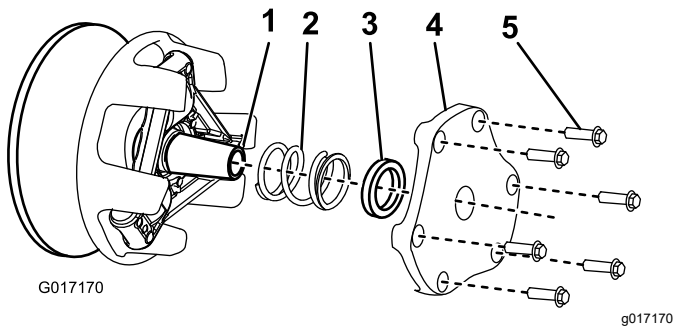

Figure 48
4. Set aside the cover, spacer, and spring (Figure 48).